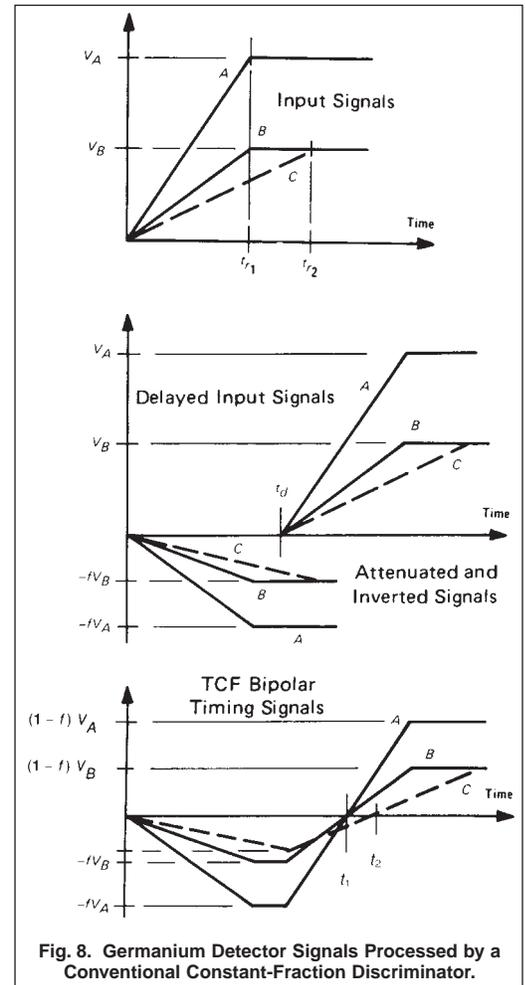

Fig. 8. Germanium Detector Signals Processed by a Conventional Constant-Fraction Discriminator.
Two factors control the intrinsic time resolution of germanium detectors: (a) variations in the charge collection time, and (b) the noise/slope effect described by Equation (10). The former so overwhelms the latter that the timing technique must be focused on overcoming the charge collection time variations, with the resulting noise/slope contribution simply being tolerated. The top diagram in Fig. 8 depicts the variation in pulse shapes observed at the preamplifier output for a germanium detector. The longest charge collection times (illustrated by pulse C) are caused by gamma rays that produce electron-hole pairs in the detector at a location close to one of the electrodes. In this case, one of the charge carriers has to "drift" the entire distance between electrodes. The minimum charge collection time (pulses A and B) results when the gamma ray interacts in the detector at a position midway between the electrodes. In that situation, the holes and the electrons each drift to their respective electrodes through half of the inter-electrode distance. Consequently, the charge collection time for pulses A and B is about half the charge collection time of pulse C. Gamma rays interacting at other locations in the detector produce charge collection times that are between the limits set by pulses B and C. The longest charge collection time (pulse C) exhibited by a specific germanium detector ranges from 50 ns for the thinnest planar detectors to 600 ns for very large coaxial detectors.
When a leading edge discriminator is used for timing with germanium detectors, the time resolution is about equal to the charge collection time, because of the long and variable charge collection time. Application of a conventional constant-fraction discriminator, as analyzed in Fig. 8, eliminates the walk caused by the difference in A and B pulse heights, but it does not eliminate the timing uncertainty caused by the difference in charge collection times between pulses B and C. The constant-fraction zero-crossing signals for pulses B and C cross the baseline at different times,  $t_1$  and  $t_2$ .